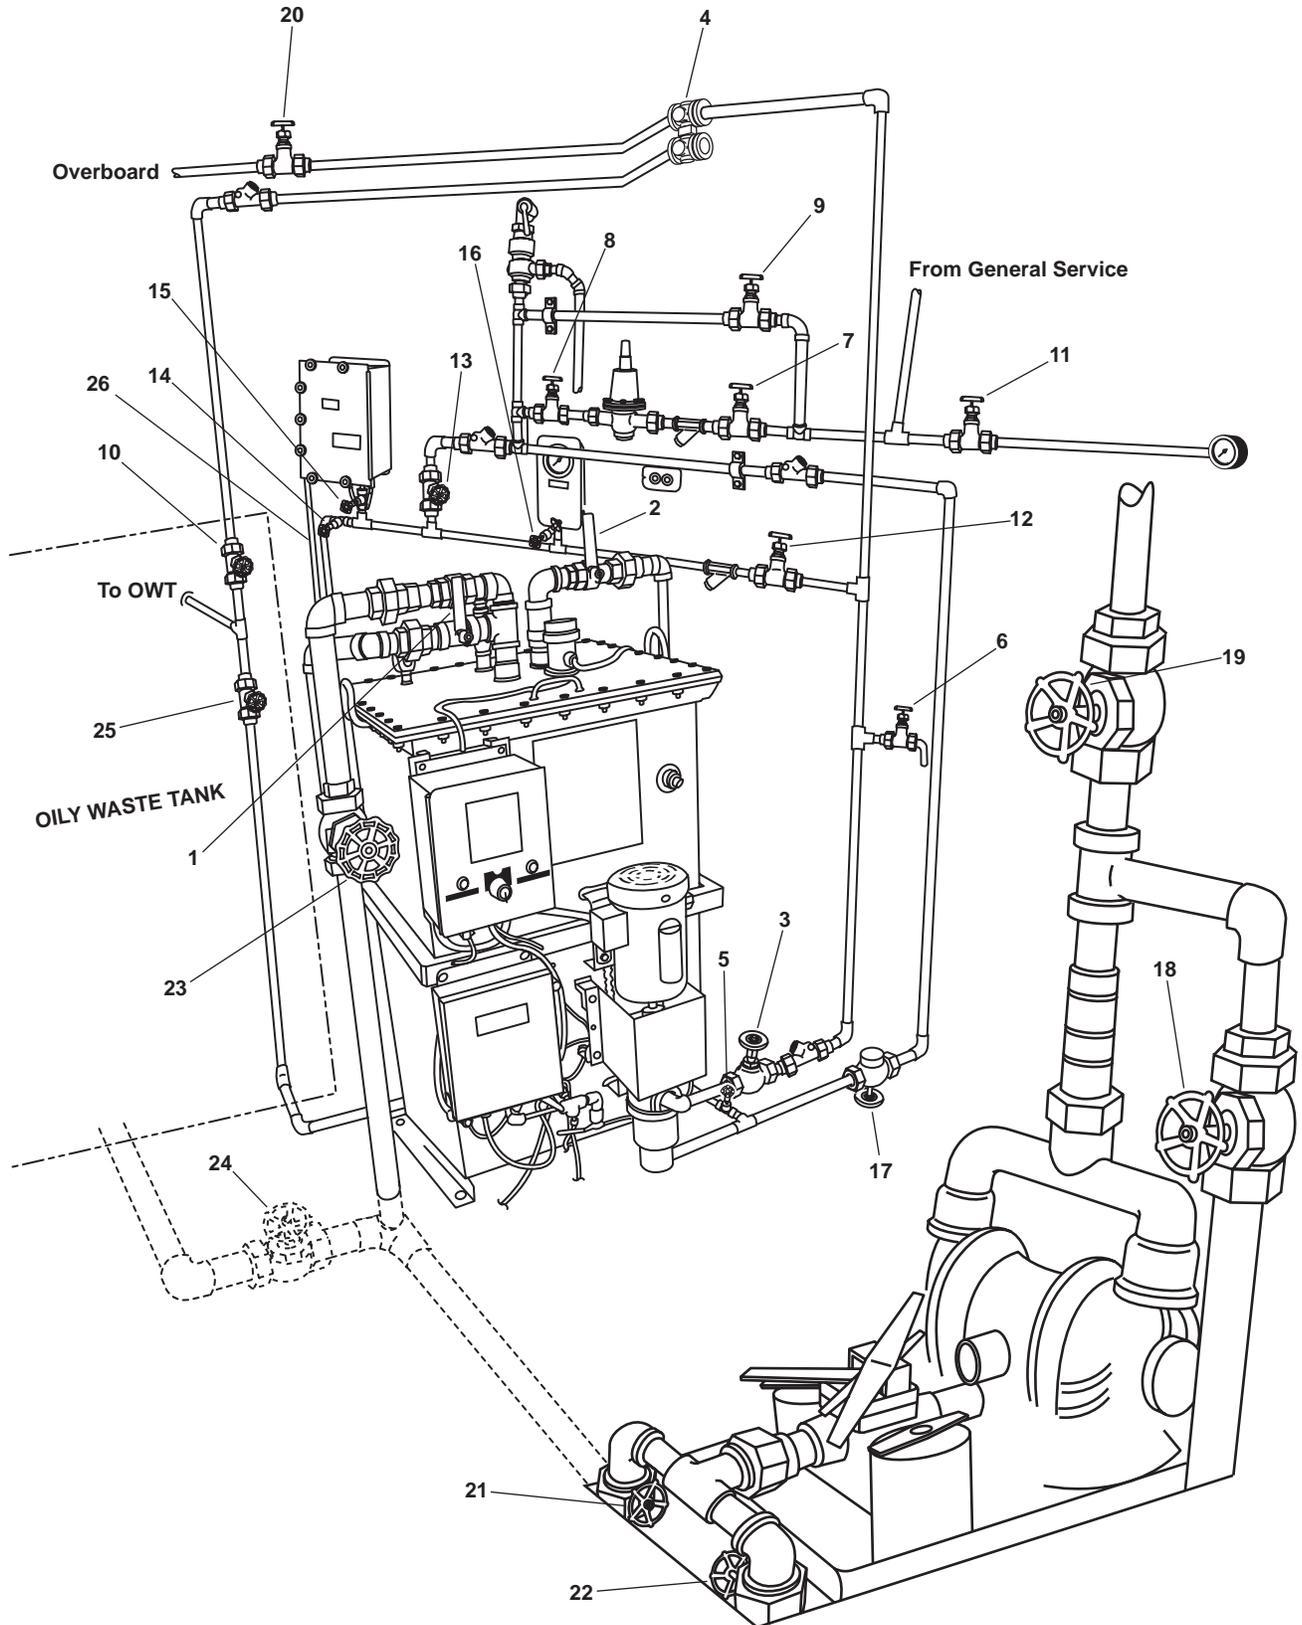

Figure 2. OWS, OB, and OCM Piping
3. Align the OCM, Oil Water Separator (OWS), and (Oily Bilge) OB valves as indicated in table 1 and figure 2 for Field Calibration and the Verification Confidence Test.
1. Align the OCM, OWS, and OB valves as indicated in table 1 and figure 2 for Field Calibration and the Verification Confidence Test.
6. Gradually cycle the OCM BACKFLUSH WATER valve, OCM-2 (figure 2, item 13) to the fully closed position and back to the fully open position.
- c. No flow is coming from the OCM sample drain (figure 2, item 26).